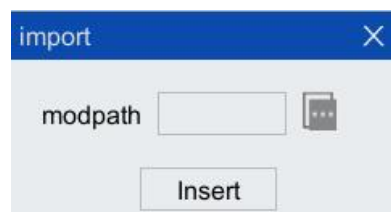

Figure 5-39 "import" instruction configuration interface
- Step1. Click "Insert Cmd> auxiliary instruction> import" option in the toolbar of the program editor to pop up "import" instruction interface, as shown in Figure 5-39.